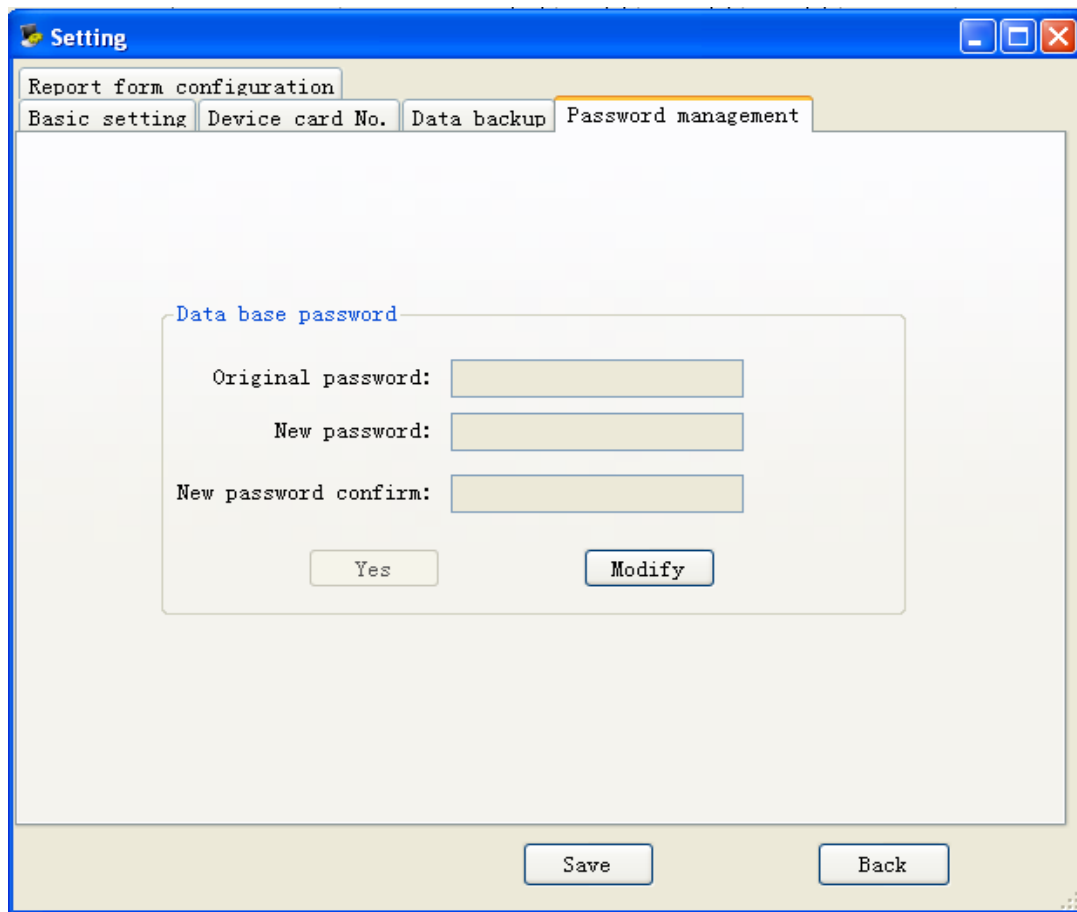

Fig. 5-1-5
**1-4.Password management:** Click the “Password Management” on the Setup window, popup the window as Fig.5-1-5.